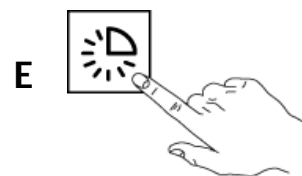

Fig.29
- 4- Press button "E" start washing cycle. Indicator light "F" is ON for the entire period of washing. (Fig.29)